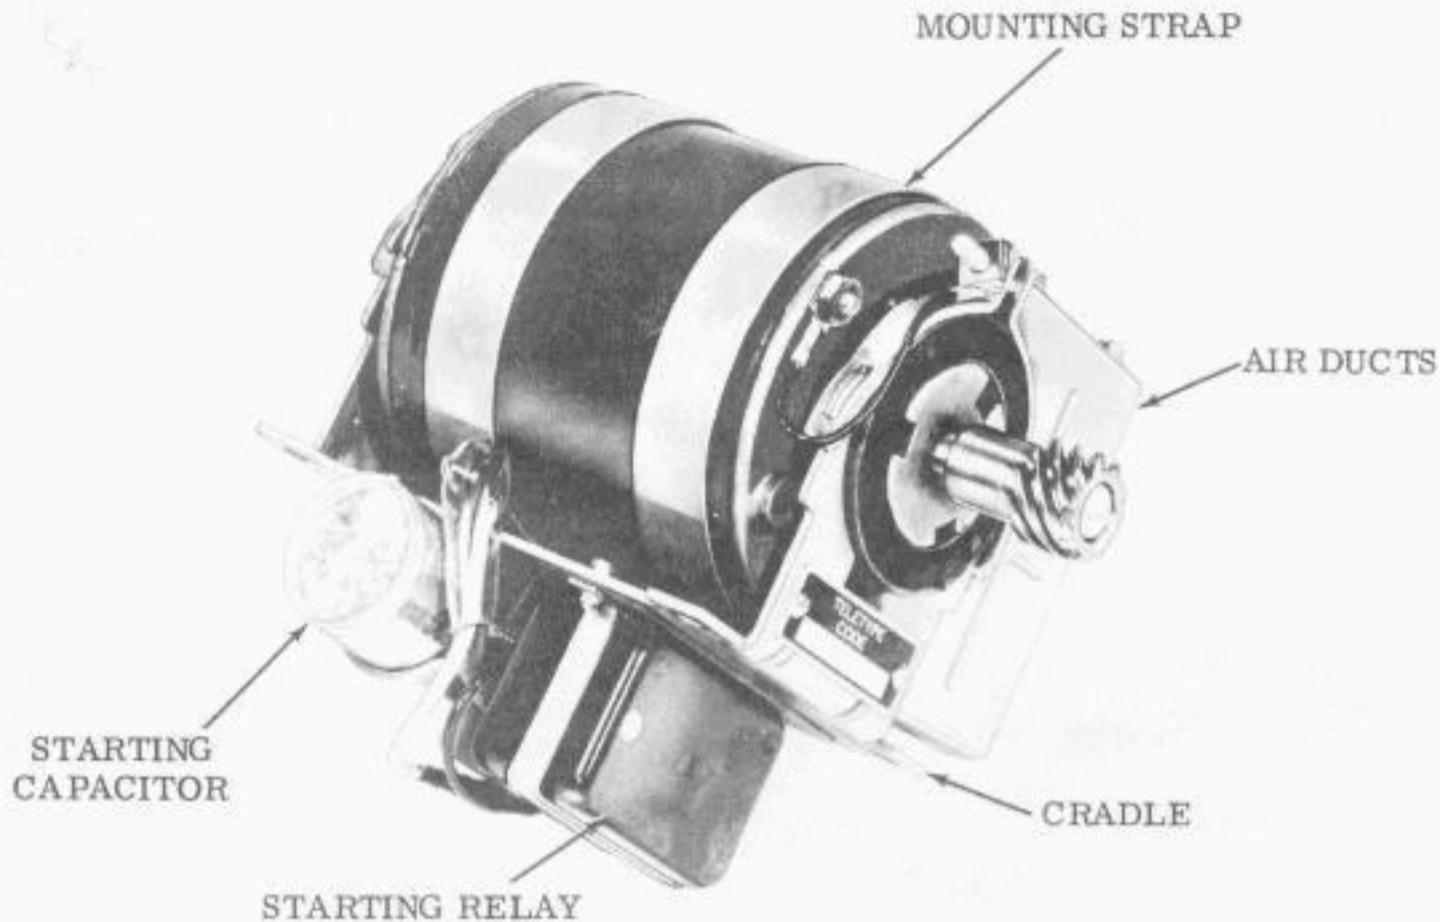

Figure 1 - Typical Miniature Synchronous Motor Unit
1.03 The synchronous type motor units (Figures 1, 2, and 3) are available in miniature (25 millihorsepower), standard, and heavy duty ratings. These motor units must be operated from a standard, single-phase, regulated power source with specifications as listed in Tables A and B.
A. Miniature Synchronous Motor Units (Figure 1)